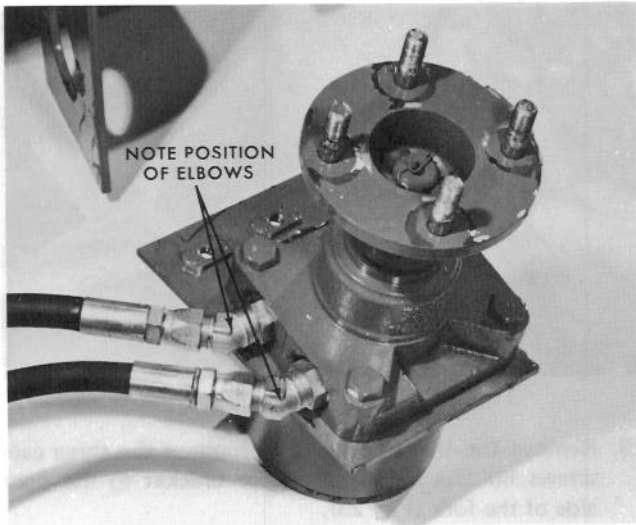
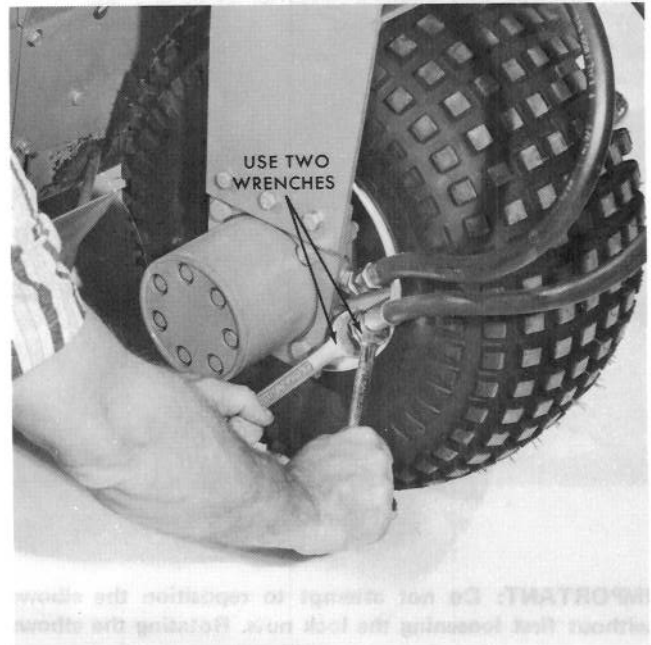

Figure 25
Figure 26
**IMPORTANT:** Note the position of the elbows in the wheel motor (Fig. 25). The angle of these elbows determines the location of the hoses. The hoses must be free from twists, must clear the tire on a full right turn, and must not kink on a full left turn. See Figs. 26, 27 and 28. The elbows have O-ring seals, and once the motor and wheel are installed, it is difficult to reposition the elbows without damaging the O-rings.
the hose. Keep the wrench on the female connector and retighten the swivel (Fig. 26).